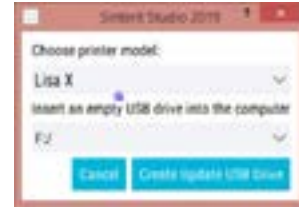

Fig. 4.1 Creating update files.
2. Choose the printer model you want to update (Fig. 4.1).
3. Insert the USB flash drive into the USB port on your computer, then click **Create Update USB Drive**. The process may take a few minutes (Fig. 4.1).